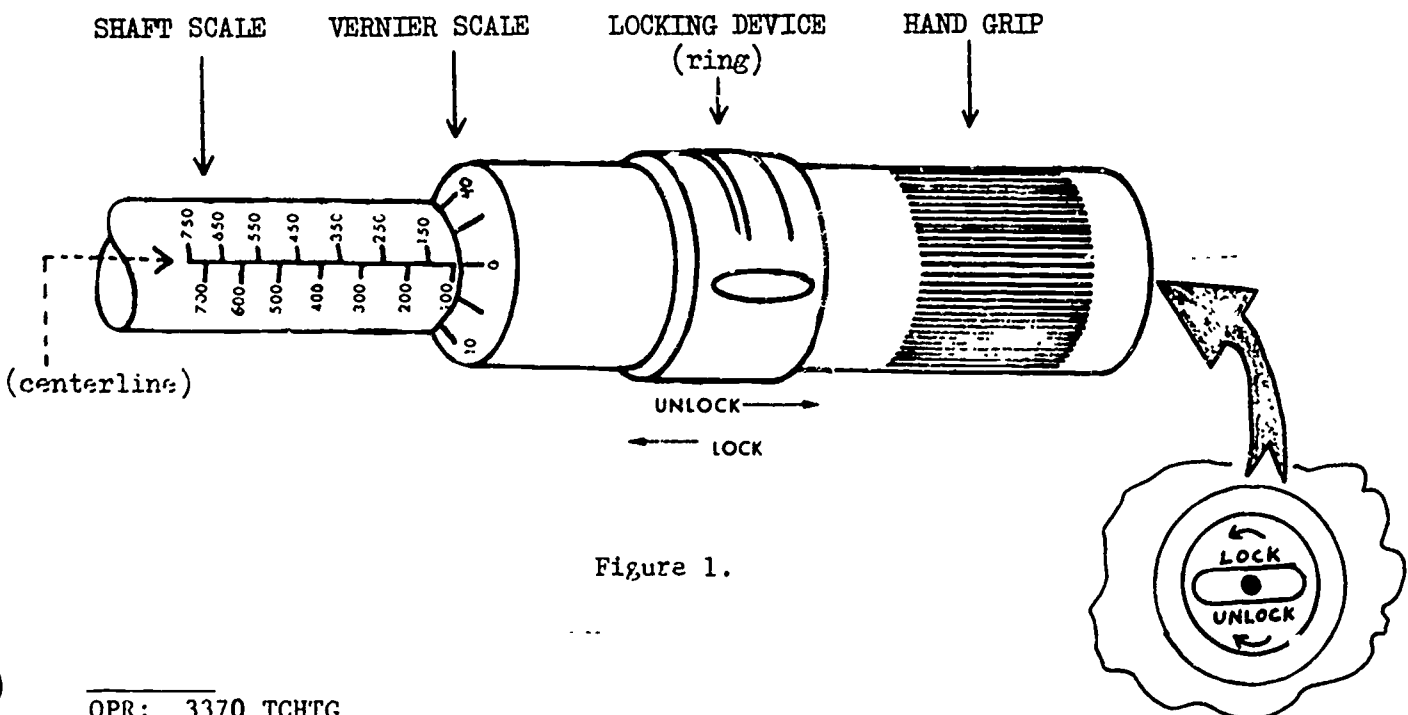

Figure 1.
3. Hold the torque wrench in your hand so that you can see the graduations on the grip and shaft. Compare the torque wrench to Figure 1 below and familiarize yourself with its parts. (Note: On some torque wrenches the locking device is located at the bottom of the grip.) Look at the shaft scale. It is graduated in increments of 50, from 100 to 750 inch pounds. Look at the vernier scale. It is graduated in increments of 5, from 0 to 50 inch pounds. By turning the grip and